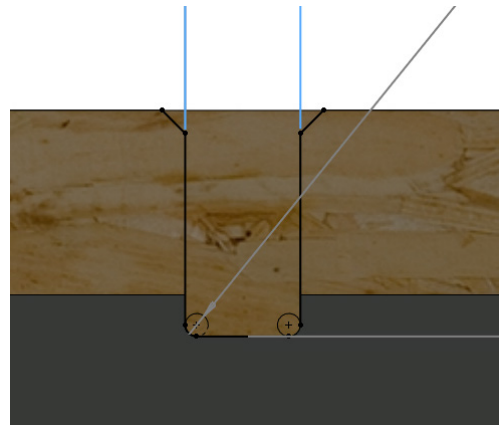

Figure 35 – Heat exchanger final position.
2. Drill x 2 by 10mm holes as indicated, jigsaw out remainder of shape leaving radiused corners at bottom. Chamfer top corners as shown to aid installation – *see figure 35.*